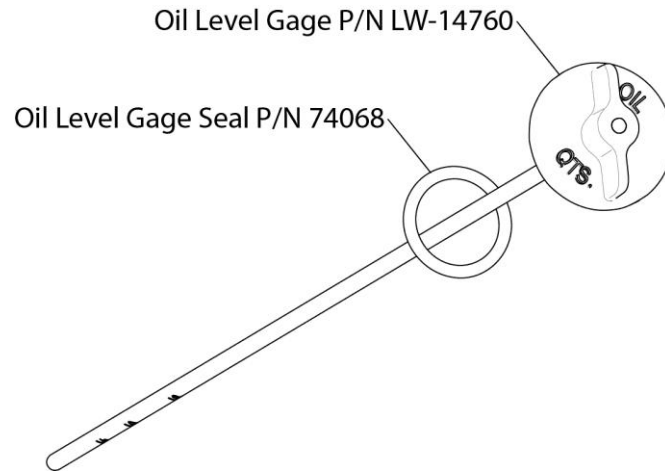

Figure 1
6. Install oil level gage seal P/N 74068 on the new replacement oil level gage P/N LW-14760. Refer to Figure 1.